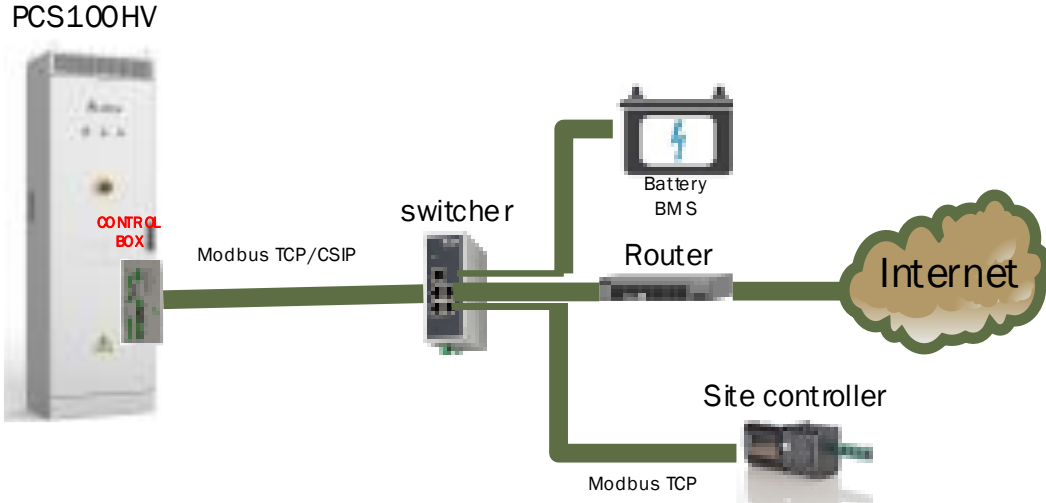

Figure 30. Communication connection diagram
2. If the PCS100HV is connected to BMS by CAN, the connector CNS10 should be connected as shown in Fig. 30 and Table 12. And the terminal resistors SWS5 should be settled to the "ON" site.